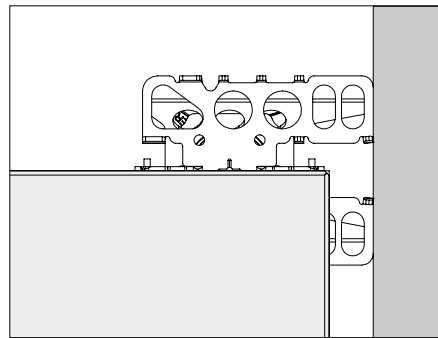

Fig. A5.17c
The teeth in the plastic racks (7.2) on the cantilever hold the panels (3) in 5 different positions. Select support position according to the compensation width. Position the cantilever of the Combihead SCK as close as possible to the wall in order to provide maximum support for the infill area. (Fig. A5.17c – A5.17d)